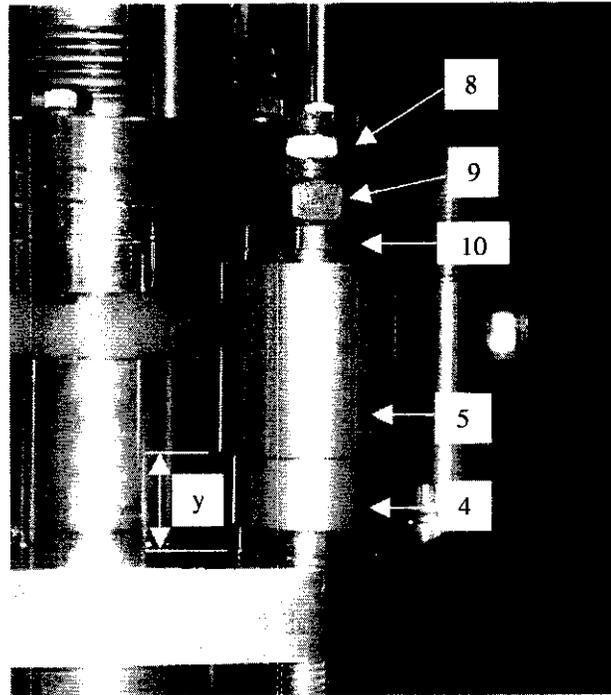
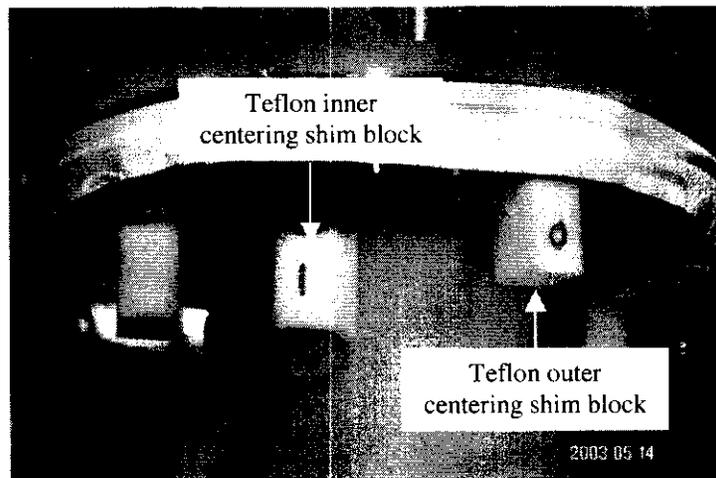
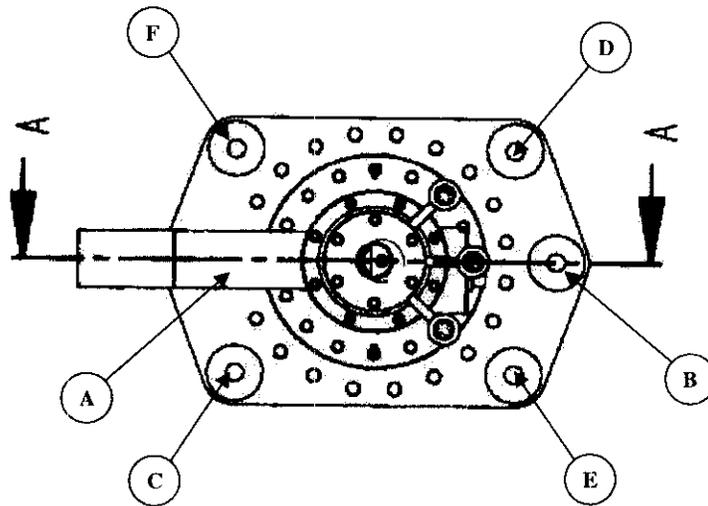

Figure 1.27a An installed Belleville Washer Assembly.
Figure 1.28.1.2 The installed Teflon centering shim blocks.
Figure 1.28.1.5 The specified sequence for tightening the Belleville Washer Assemblies.
- 1.27** Install Belleville Washer Assemblies on each tensioning stud per Figures 1.27a and 1.27b. A spherical washer must be placed below the Belleville washer holder on each stud. In the figures: Items 11 (10 each) are Belleville Washers, arranged as shown; Items 6 (2 each) are flat washers; Items 4 and 5 are the Belleville Washer Holder; Item 10 are Spherical Washers for above and below the washer holder; Item 9 is a loading nut; and Item 8 is a jam nut.
- 1.28.1.2** Center the lower end of the lead in the chimney using the centering shim blocks. The Teflon inner centering shim blocks are labeled with an 'I' and go between the power lead and the lower insulator. The Teflon outer centering shim blocks are labeled with an 'O' and go between the lower insulator and the chimney. The installed Teflon centering shim blocks are shown in Figure 1.28.1.2.
- 1.28.1.3** Tighten the 6 loading nuts finger-tight. With adjustable parallels, measure and record the gap "y" indicated in Figure 1.27a between Item 5 and the current lead top flange at the 6 locations specified in Figure 1.28.1.5. Units are mm.
1.28.1.6 Record the final measured gaps 'y' in Figure 1.27a. Units are mm.
1.28.2.2 Center the lower end of the lead in the chimney using the centering shim blocks. The Teflon inner centering shim blocks are labeled with an 'I' and go between the power lead and the lower insulator. The Teflon outer centering shim blocks are labeled with an 'O' and go between the lower insulator and the chimney. The installed Teflon centering shim blocks are shown in Figure 1.28.1.2.
- 1.28.2.3** Tighten the 6 loading nuts finger-tight. With adjustable parallels, measure and record the gap "y" indicated in Figure 1.27a between Item 5 and the current lead top flange at the 6 locations specified in Figure 1.28.1.5. Units are mm.
- 1.28.2.6** Record the final measured gaps 'y' in Figure 1.27a. Units are mm.